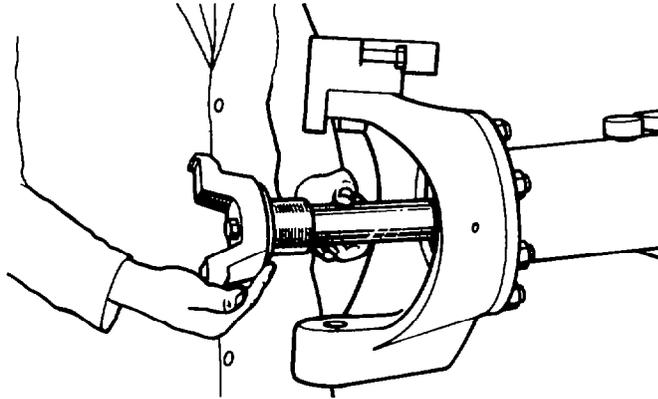

Fig. 371 — Installing Drive-shaft
- l. Insert the drive-shaft into the axle housing (see fig. 371); rotate the shaft until the splines on the end of the shaft mesh with the splines in the differential side gears then push the shaft fully home into the housing.